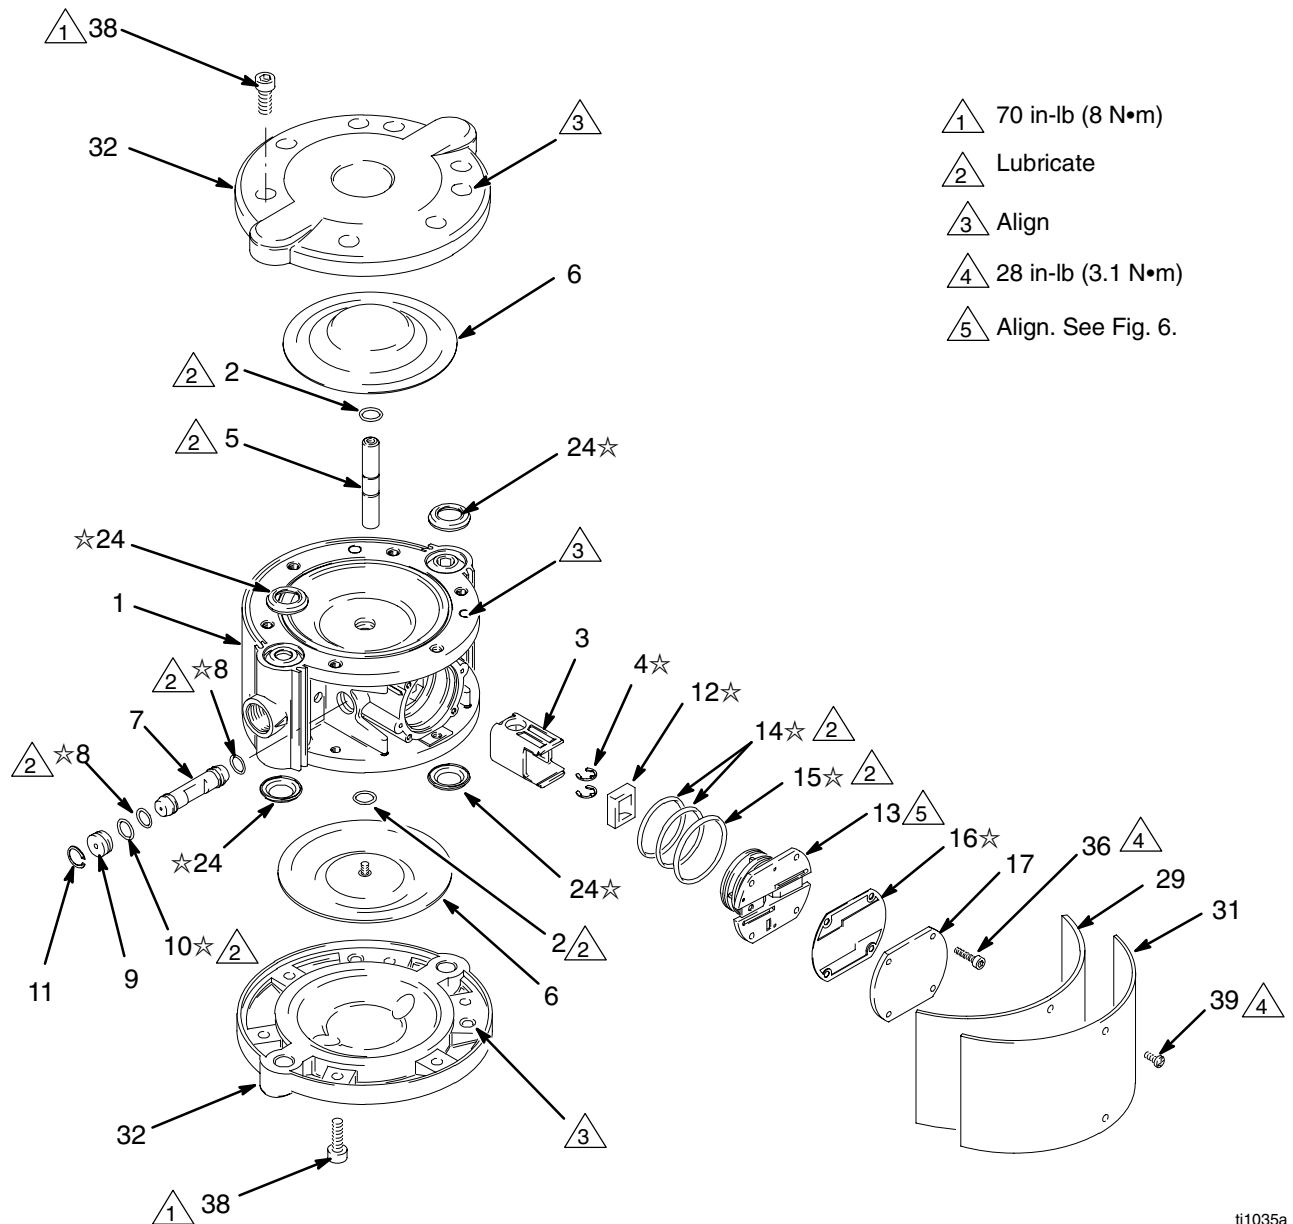

Fig. 8
1. Remove the fluid covers. See page 14. Remove the side cover (31) and felt dampener (29).
3. Remove the diaphragms (6). See page 17.
4. Remove the retaining rings (4) from the shaft (5). See Fig. 8.
5. Slide the shaft (5) out of the center housing (1). Remove the valve carriage (3) from the housing.
6. Remove the o-rings (2) from the shaft (5).
7. *If you could not remove one diaphragm from the shaft, place the shaft in a vise with soft jaws. Unscrew the remaining diaphragm (6) from the shaft (5) by hand.*